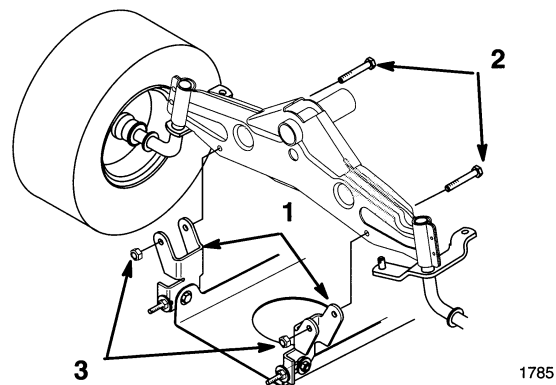

Figure 17
8. Remove the bolts and lock nuts and pull the two mower pivot mount brackets down from the front axle (Fig. 17).